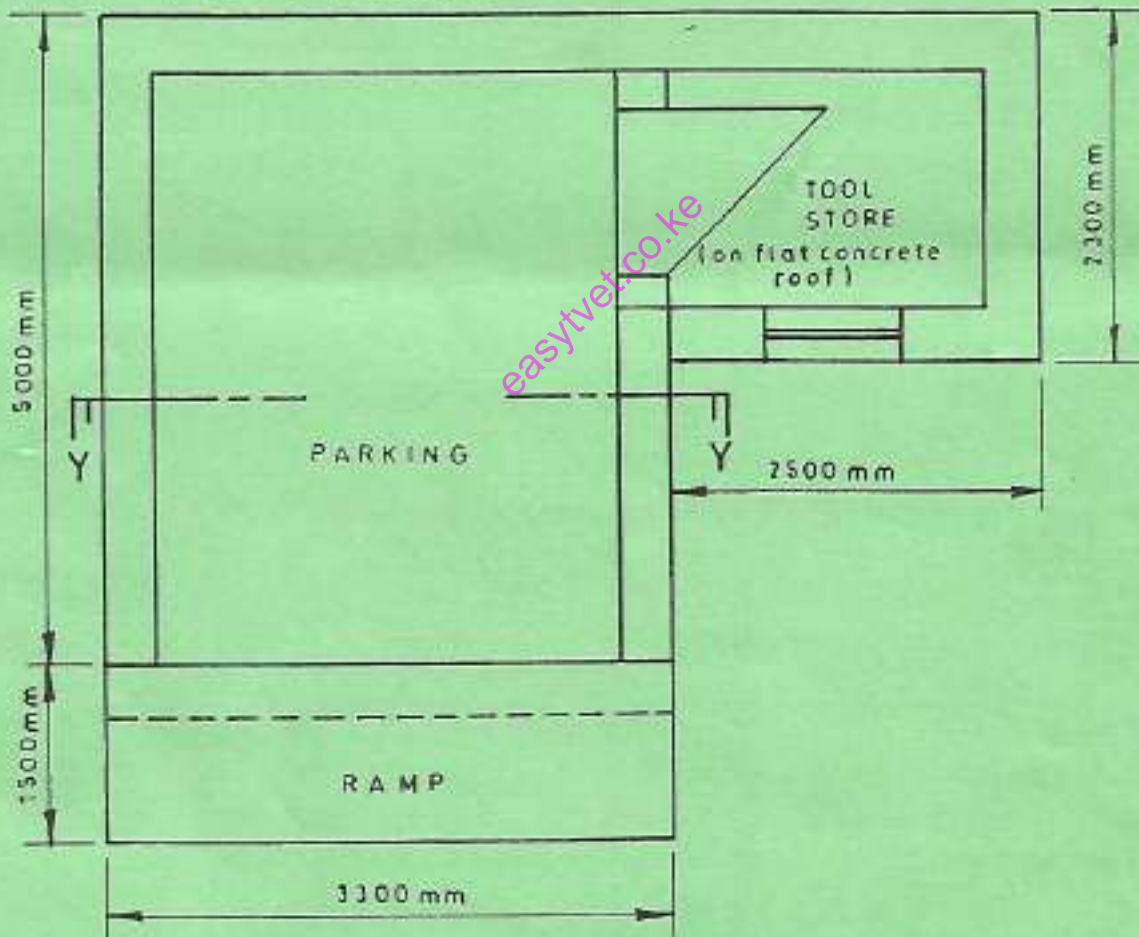

Fig.5
8. A proposed garage with a pitched roof for a residential building is to be constructed on a firm ground as shown in figure 5. The specification for the construction of the garage are as follows: